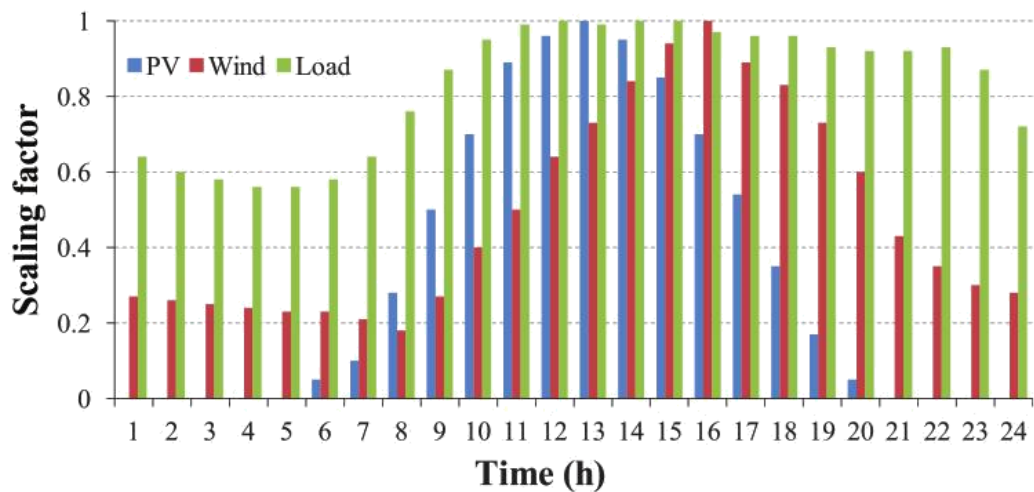

Figure 2. Scaling factors of time-variant load and generation.
4. Add wind-based and photovoltaics (PV) Distributed Generation (DG) to simulate a high DG penetration scenario (PV DG could represent aggregated generation seen at the installed bus). Two wind DG of 1 MW are sited at buses 18 and 24. Three 400 kVA PV DG are installed at buses 5, 21, and 31, and four 500 kVA PV DG are installed at buses 8, 12, 28, and 33. Consider 85% wind and solar injection (MW) of total capacity on load flow page of wind and solar DG. It is assumed that the loads follow the IEEE-RTS model as illustrated in Figure 2 and the load composition is set to $a_p = a_q = 0.4$, $b_p = b_q = 0.3$, and $c_p = c_q = 0.3$. The output generation from wind and PV DG is also expected to follow the curves in Figure 2. Assign the characteristics of Figure 2 to the model (see 18.2 *Parameter Characteristics* in the *User Manual*).
6. Conduct load flow studies for different times during the day corresponding to Figure 2 (you can do this by changing the *Study Time*).
7. Plot the voltage profile of the feeder for different times during the day corresponding to Figure 2.
8. Calculate % voltage deviation at each bus, as well as real, reactive, total losses and % loading of each line for different times during the day corresponding to Figure 2 (see 10.6 *The Flexible Data Page Tab* in the *User Manual*).
9. Plot the results obtained in the previous two steps, over the whole day corresponding to Figure 2, by using Excel (see *10.9.1 Export to Spreadsheet Programs* in the *User Manual*).